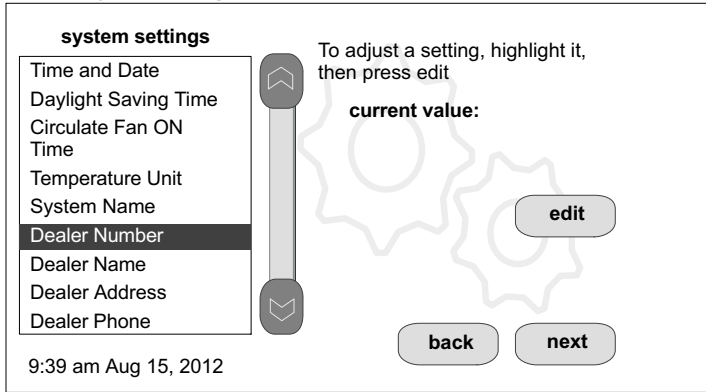

Figure 4. Dealer Number Selection
2. Enter the **Dealer Number** using the on-screen keyboard (see figure 4). Press **save** to continue.